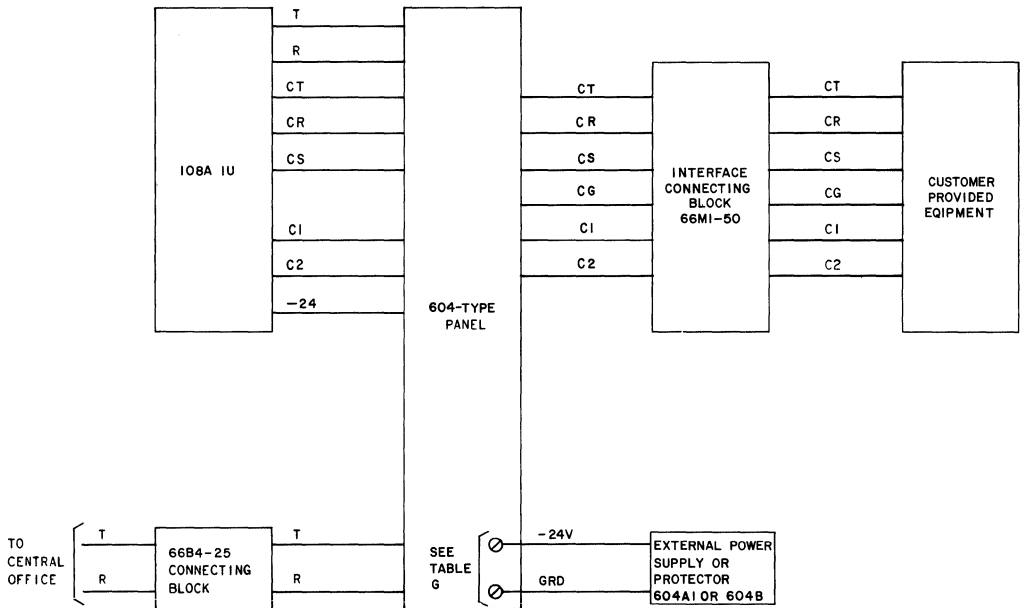
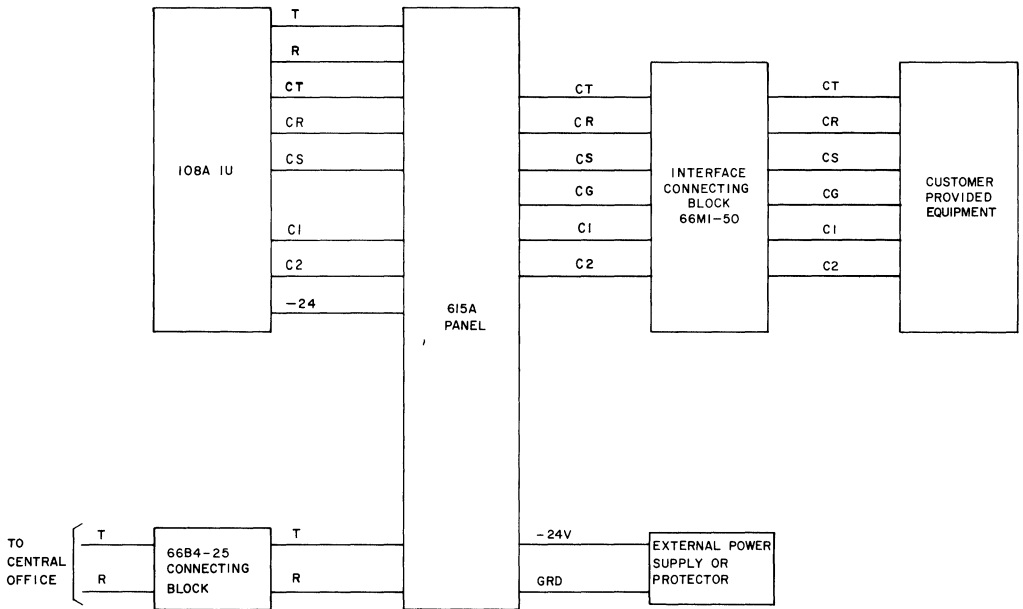

Fig. 7—Block Diagram—108A Interconnecting Unit With 604-Type Panel
Fig. 8—Block Diagram—108A Interconnecting Unit With 615A Panel
604-Type Panel (Fig. 7 and Tables B, C, D, E, F)
3.07 When using an external power supply (604A1 or 604B panel only) connect to fuse panel on rear of panel as shown in Fig. 7 and Table I (use 16-gauge or equivalent twisted pair). Refer to the appropriate section in Division 518 for proper grounding of power plants. Proper grounding of equipment and power unit is important to prevent damage from power line surges.
▶615A Panel (Fig. 8 and Tables G, H, and I)
3.15 When power is supplied by a CP dc power source, protection is required. The KS-20944 protector must be mounted externally and wired to the fuse panel on rear of 604 panel (Fig. 7) or ⚡615A panel (Fig. 8).⚡
6.04 For connection information using 615A panel, refer to Fig. 8, 10, Tables G, H, and I.